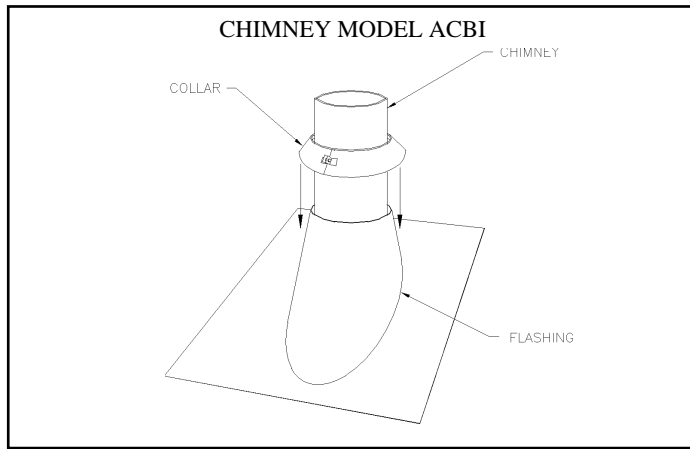

Figure 31
4. Put the roof flashing in place and seal the joint between the roof and the flashing with roofing pitch. (see figures 31 & 32). For sloping roofs, place the flashing under the upper shingles and on top of the lower shingles. Nail the flashing to the roof, using roofing nails.